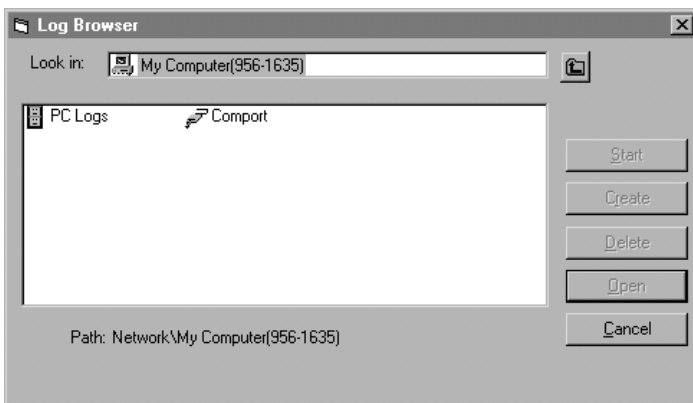

Figure 15: Log type selection
2. Double click on the computer name to advance to the dialog box shown in *Figure 15* below.